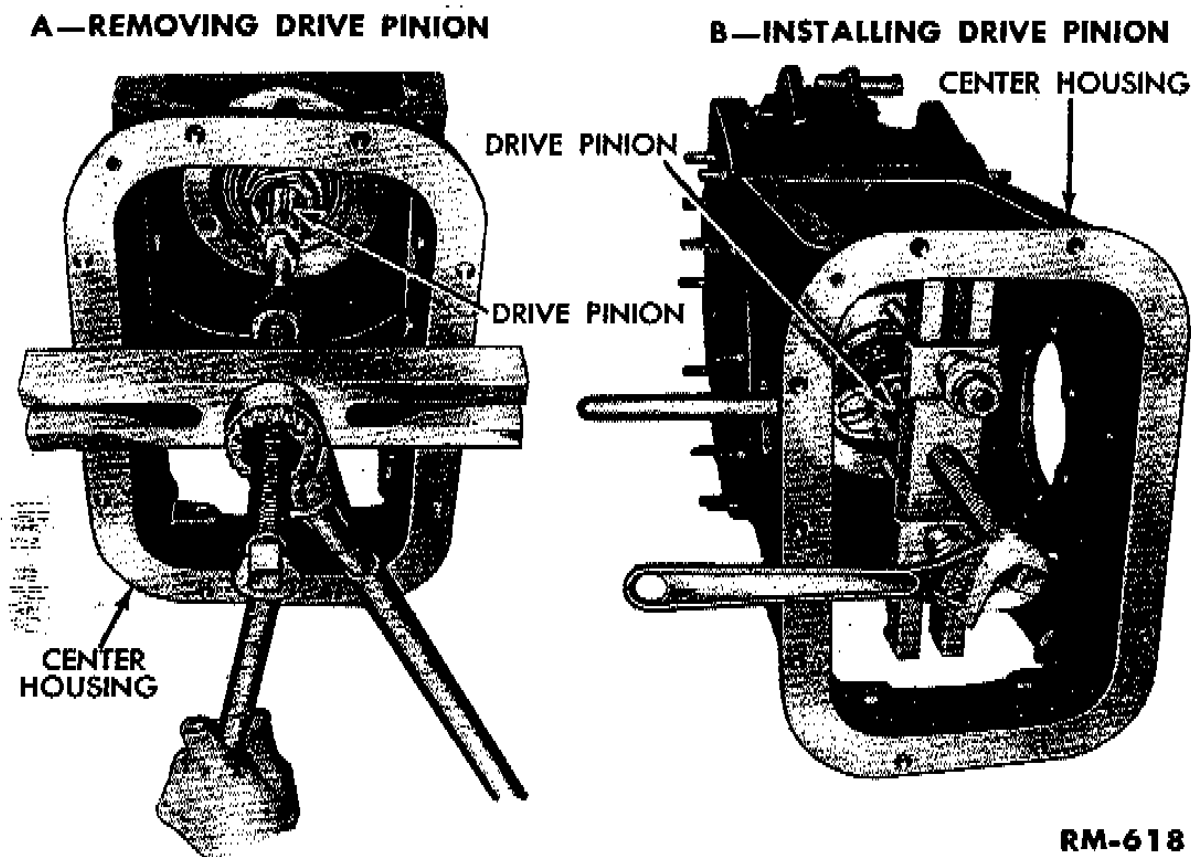

Fig. 36—Removing Drive Pinion Assembly
Remove the six cap screws that secure the drive pinion sleeve to the center housing. Install the puller, as shown in fig. 36, and remove the pinion assembly.
d. **Axle Shaft.** Replace the axle shaft (fig. 36) if the splines or threads are damaged. Replace the axle shaft bearing (subpar. (1) below) if the rollers have flat spots or if any rollers are missing.